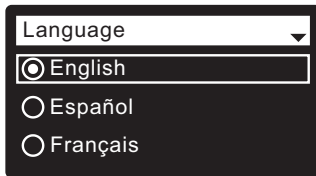

FIG. 17
- LANGUAGE** If the desired language already has a dot next to it (See Figure 17), go to Step 2. Otherwise, press the filter’s DOWN (▼) or UP (▲) buttons to scroll to the desired language, then press the SELECT (○) button to choose it.